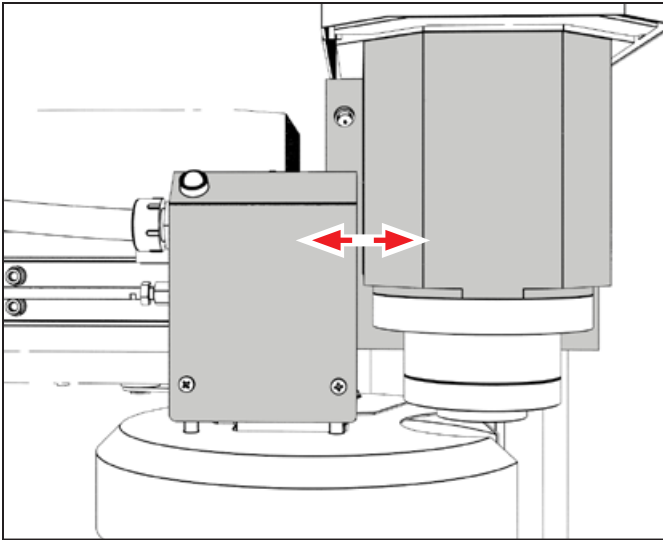

Figure 14
2. From the front of the machine, make sure the motor enclosure is approximately 1/8 inch from the mill's spindle head (see **Figure 14**). If it is not: